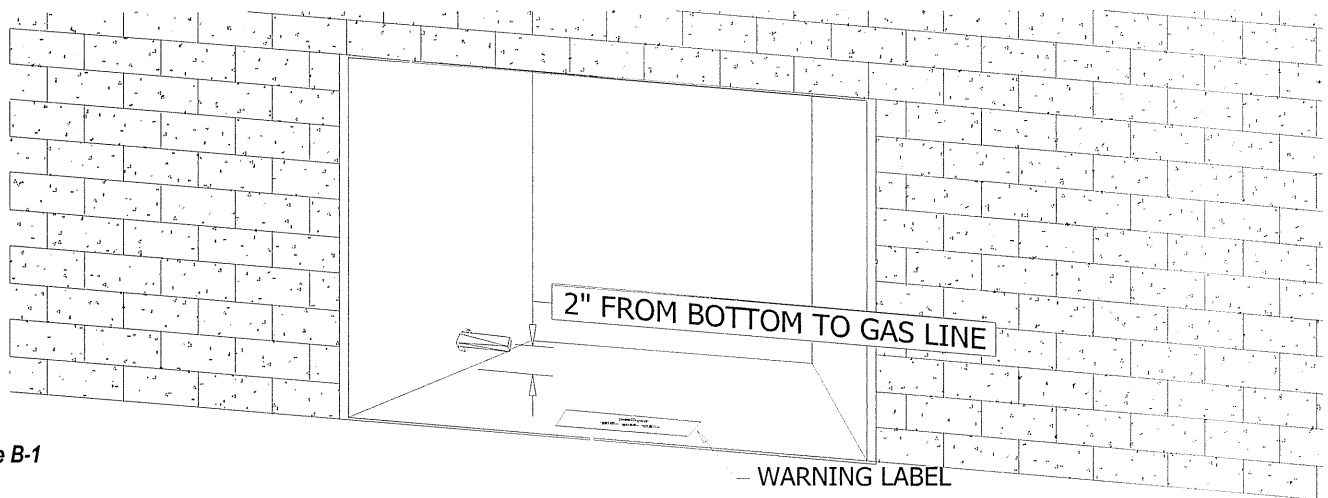

Figure B-1
1. Run the gas line into the fireplace, preferably through the side or back, 2" from the bottom of the fireplace. See figure B-1 on page 5.